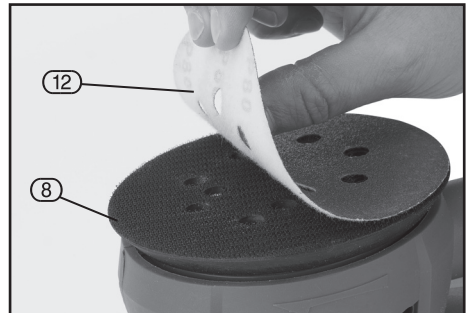

FIG.2
8.2 ABRASIVE DISC INSTALLATION/REPLACEMENT – FIG.2